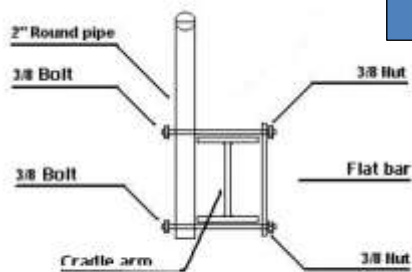

Figure 14
(FIGURE 14 /15)
**NOTE: Straight Lift** (Figure 14)